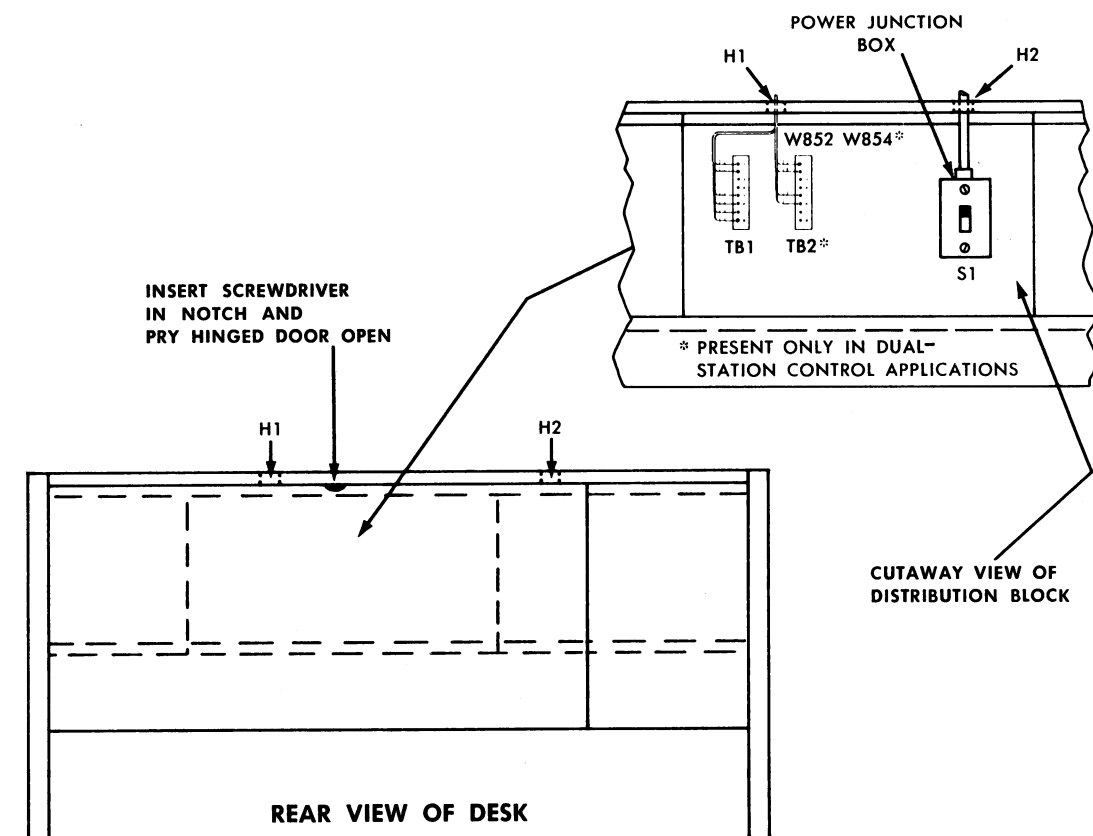

Figure 2 - Location of Power Junction Box and Terminal Boards.
The 117-VAC Power Junction Box and Terminal Board(s) for making telephone line connections should be installed on the Distribution Block Panel in the back of the console desk (see Figure 2 for mounting configuration).
4. Install the power junction box on the distribution block as shown in Figures 2 & 4 and as described in the following instructions.